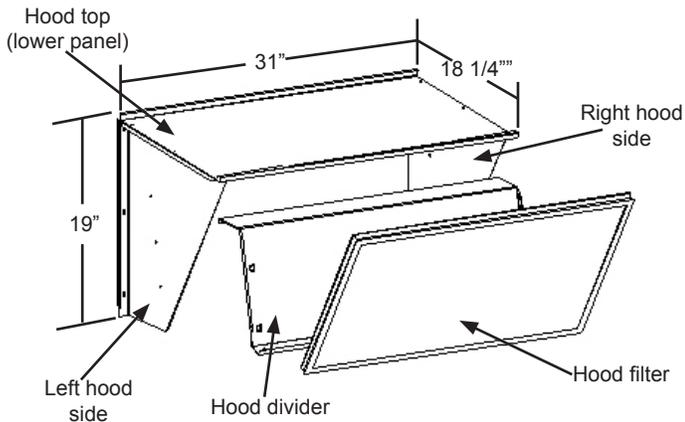

Figure 9
2. Screw the hood sides to the hood top, See Figure 9.